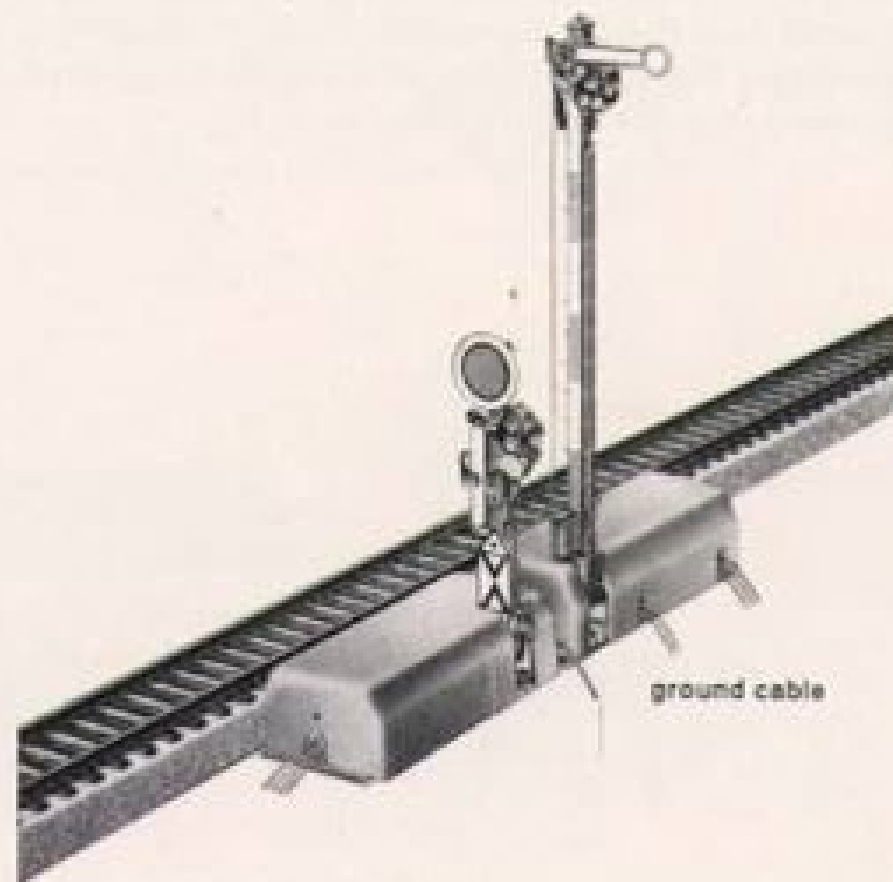

Fig. 4 Warning signal connected to home signal
2. Using track sections 3800 and 3900, the current cannot return in this manner because the roadbed of these sections is not grounded. In this case the socket at the rear of the signal (9) must be connected with the ground (brown) socket on the transformer. If there are several such connections to be made, a distributor plate 470 is best used. If a warning signal is placed immediately before a home signal, **one** ground cable can be used to ground both signals. In this case the ground sockets on the signals must be connected by an intermediate plug 490 Y (Fig. 4).